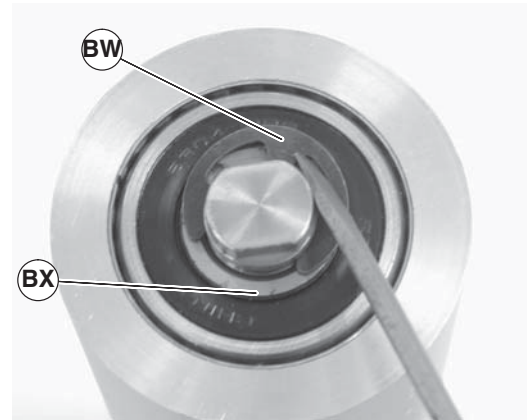

Figure 74
6. Remove the pulley shaft assembly: remove the clip ring (Figure 74, item BW) and washer (BX) from one side of the pulley assembly.